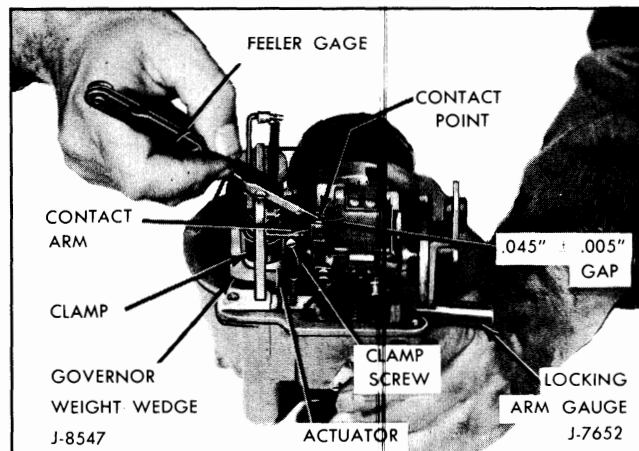

Fig. 12-45 Contact Point Adjustment (Contact Arm Centered)
4. Use a feeler gauge to measure gap between contact arm and either contact point on magnet assembly (Fig. 12-45). This gap should be approximately one-half of the full gap measurement in Step 2. If gap is not within specifications, contact arm is not centered properly. Loosen screw on actuator clamp (Fig. 12-45) and rotate actuator until contact arm is centered between the two contact points on the magnet assembly. Then tighten clamp screw and recheck gap.